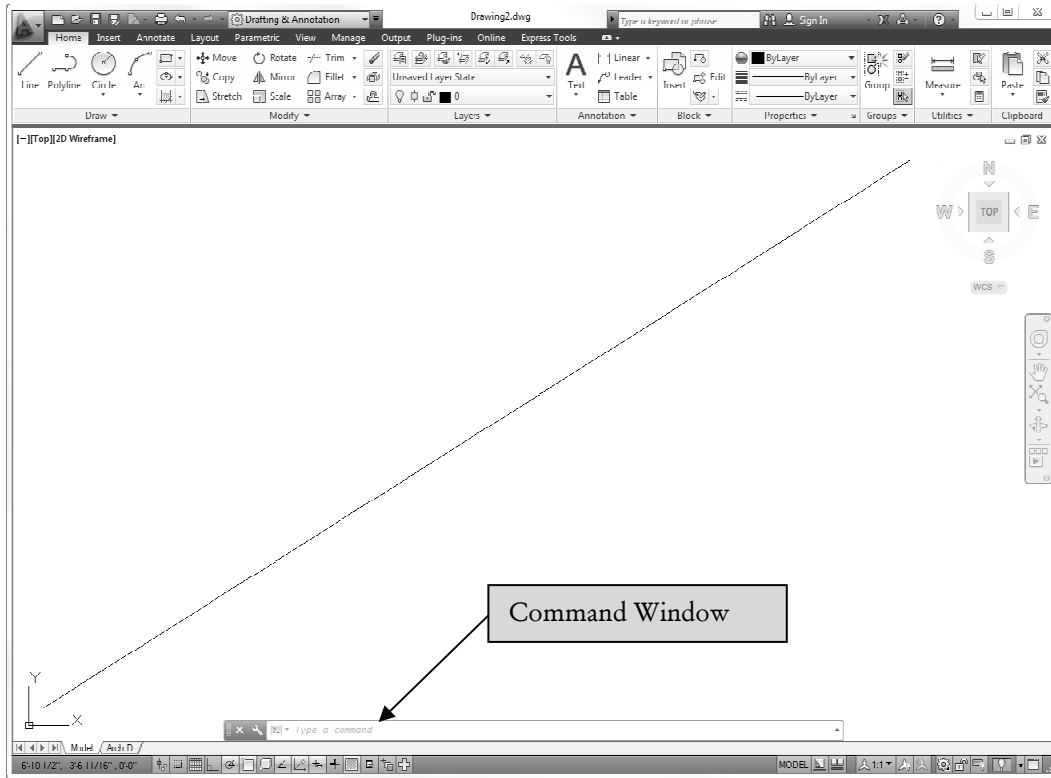

FIGURE 2-1.4 Your first line!
9. **Draw a line** from the lower left corner of the screen to the upper right corner of the screen (by simply clicking two points on the screen); see Figure 2-1.4.